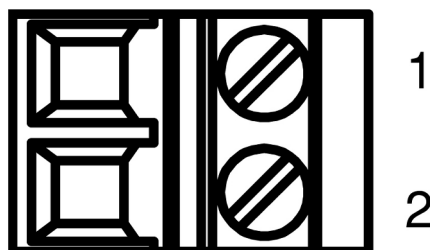

Figure 4-3 Pin assignment of the terminal block
3. Fit the connectors for the power supply. See << Link to Figure 4.3>>